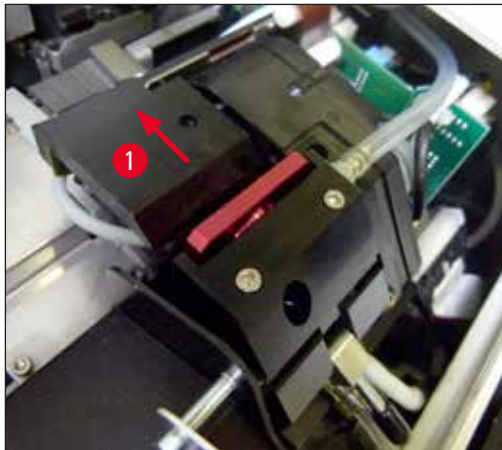

Fig. 54
2. The print head (→ "Fig. 54-1") moves upward to a position approx. 1 cm away from the sealing lip (→ "Fig. 54").